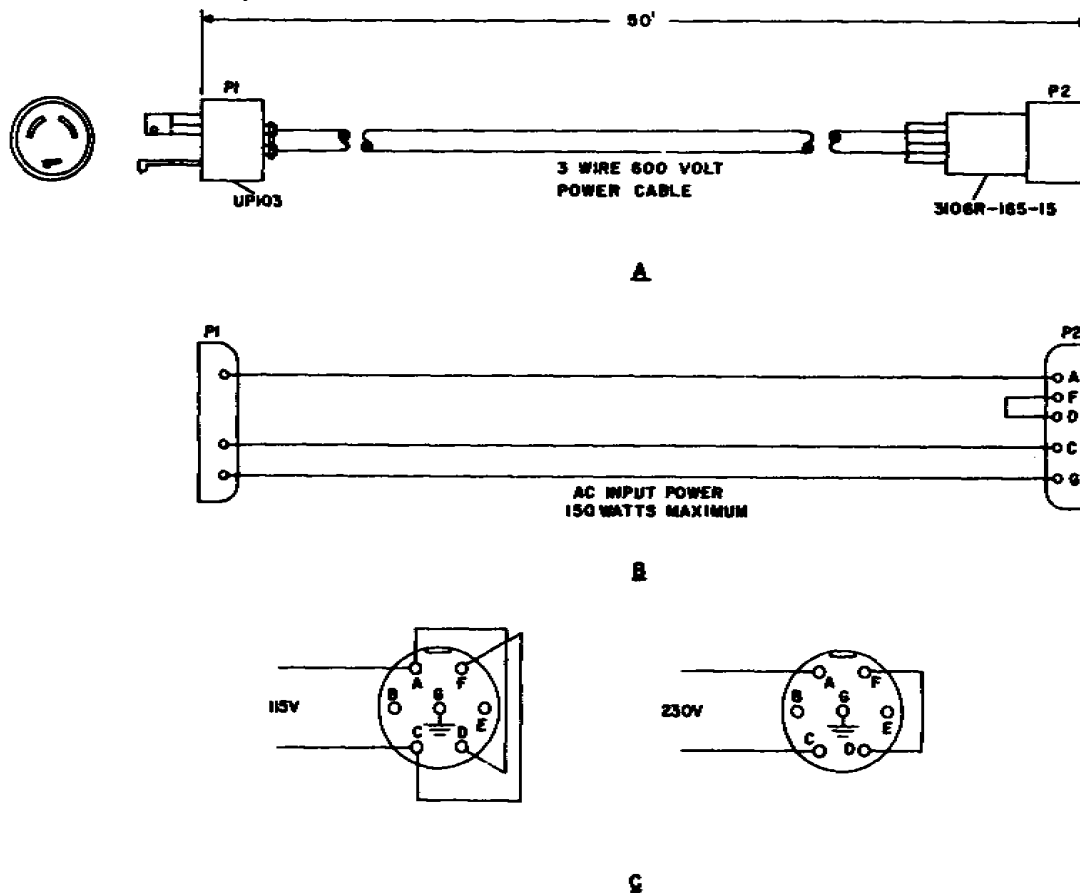

Figure 2-10. 230 Volt Power Cable, Fabrication Diagram
(1) 230-VOLT POWER CABLE. - Power transformer T1 of Power Supply PP-3700/PRC-41 has a split primary. Terminals 1 and 2 of transformer T1 are connected to pins A and F of power connector J1. Terminals 3 and 4 of transformer T1 are connected respectively to pins D and C of connector J1. The connector of Power Electric Cable Assembly CX-8687/PRC-41 which mates with power connector J1 of Power Supply PP-3700/PRC-41 is wired for use with a 115-volt, 50- to 400-cps primary power source. Refer to figure 1-11. In event that only 230-volt, 50- 400-cps primary power is available, the a-c power cable described by figure 2-10 may be fabricated from bulk supplies. This cable differs from Power Electric Cable Assembly CX-8687/PRC-41 in that connector P1 is a three-prong, 230-volt, twist-lock plug and plug P2 is wired so as to connect the two primary sections of PP-3700/PRC-41 power transfer T1 in series.
(2) RADIO FREQUENCY COAXIAL CABLE. - Normally when it becomes necessary to connect an antenna to